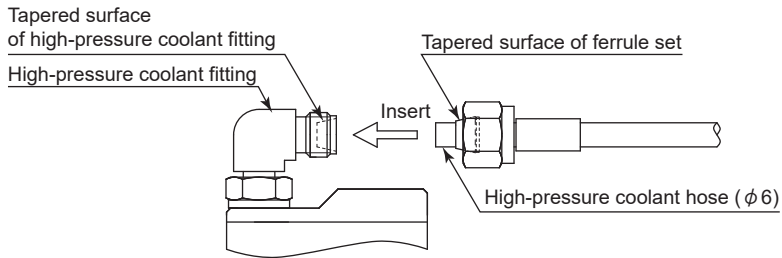

Fig. 25
- (1) Insert the high-pressure coolant hose (diameter  $\phi 6\text{mm}$ ) so that the tapered surface of the ferrule set fastened to the high-pressure coolant hose (diameter  $\phi 6\text{ mm}$ ) fits tightly against the tapered surface of the high-pressure coolant fitting. (Fig. 25)